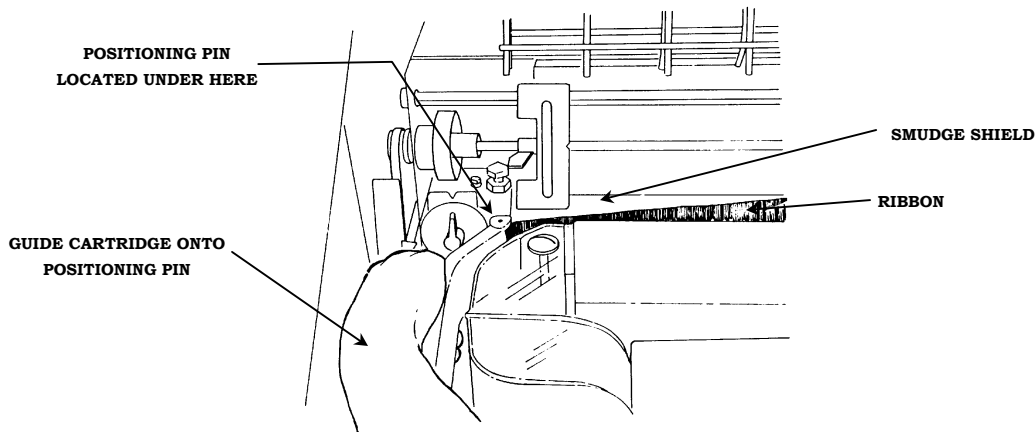

Figure 2-20 Ribbon Installation
15. Tilt the left side of the ribbon cartridge down and place it on the positioning pin. Using the fingers on the left hand, guide the cartridge onto the positioning pin. The left edge of the cartridge will guide the ribbon between the ribbon guide and the smudge shield. See Figure 2-20.